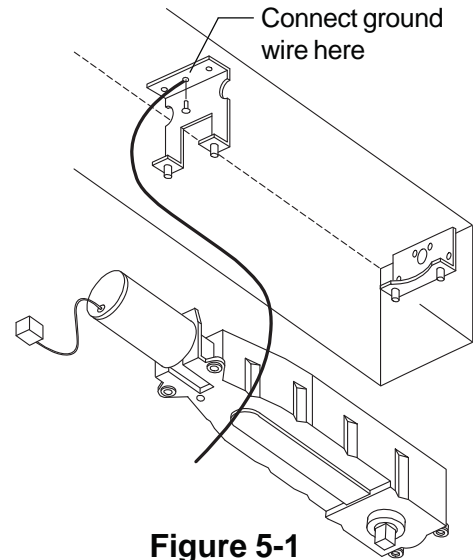

Figure 5-1
- 5.2. Connect the end of the green operator ground wire to the rear operator mounting bracket in the header (Figure 5-1) using the #10-32 hex head green ground screw supplied in the operator screw pack.